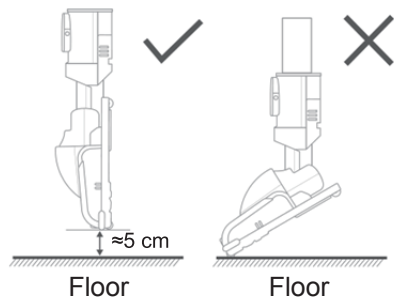

Fig. 6
1. Choose a suitable location for the wall bracket away from areas where it will get wet or knocked and close to a socket outlet. Check that the charge cable will reach the mains socket (180cm distance max) and that there is sufficient space above and below the bracket (approx. 125cm below) for the fully assembled vacuum cleaner to be inserted. No part of the vacuum cleaner should touch the floor when fitted into the bracket (fig 6).